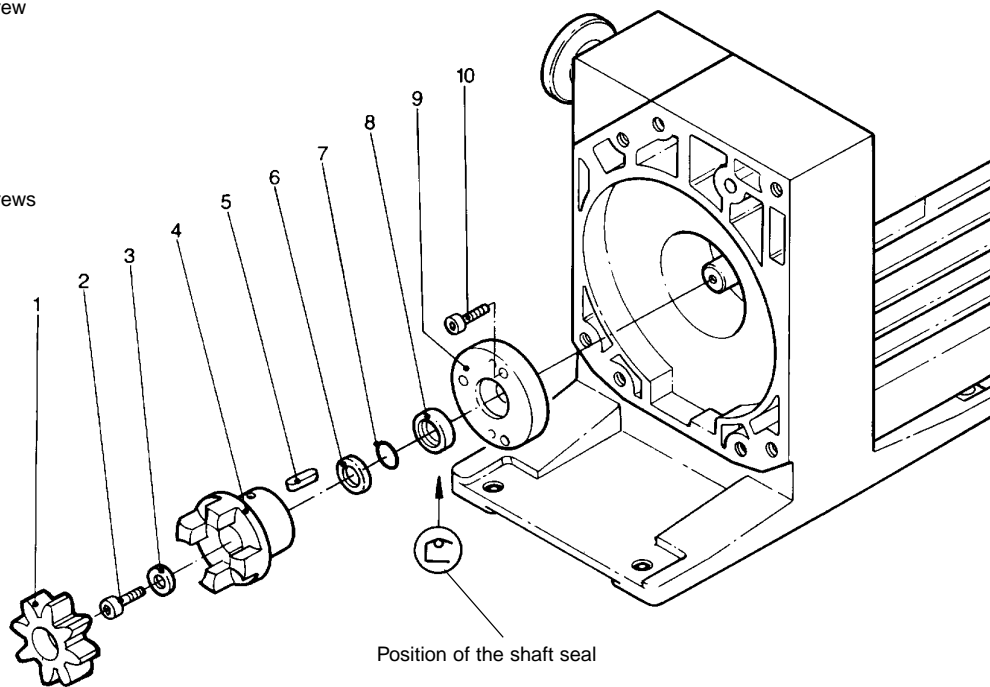

Fig. 12 Exchanging the outer shaft seal
**Key to Fig. 12**
Using a suitable plastic or aluminium cylinder (shaft seal driver) and a plastic hammer, force the shaft seal (12/8) carefully and without bending it into the centering disk (for position of shaft seal, see Fig. 12).